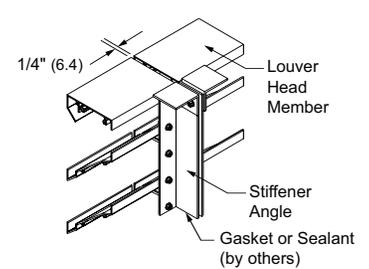

Fig. 3.3 Hidden Mullion
4. For hidden mullions, install gasket or sealant (by others) between mating stiffener angles. See fig. 3.3.